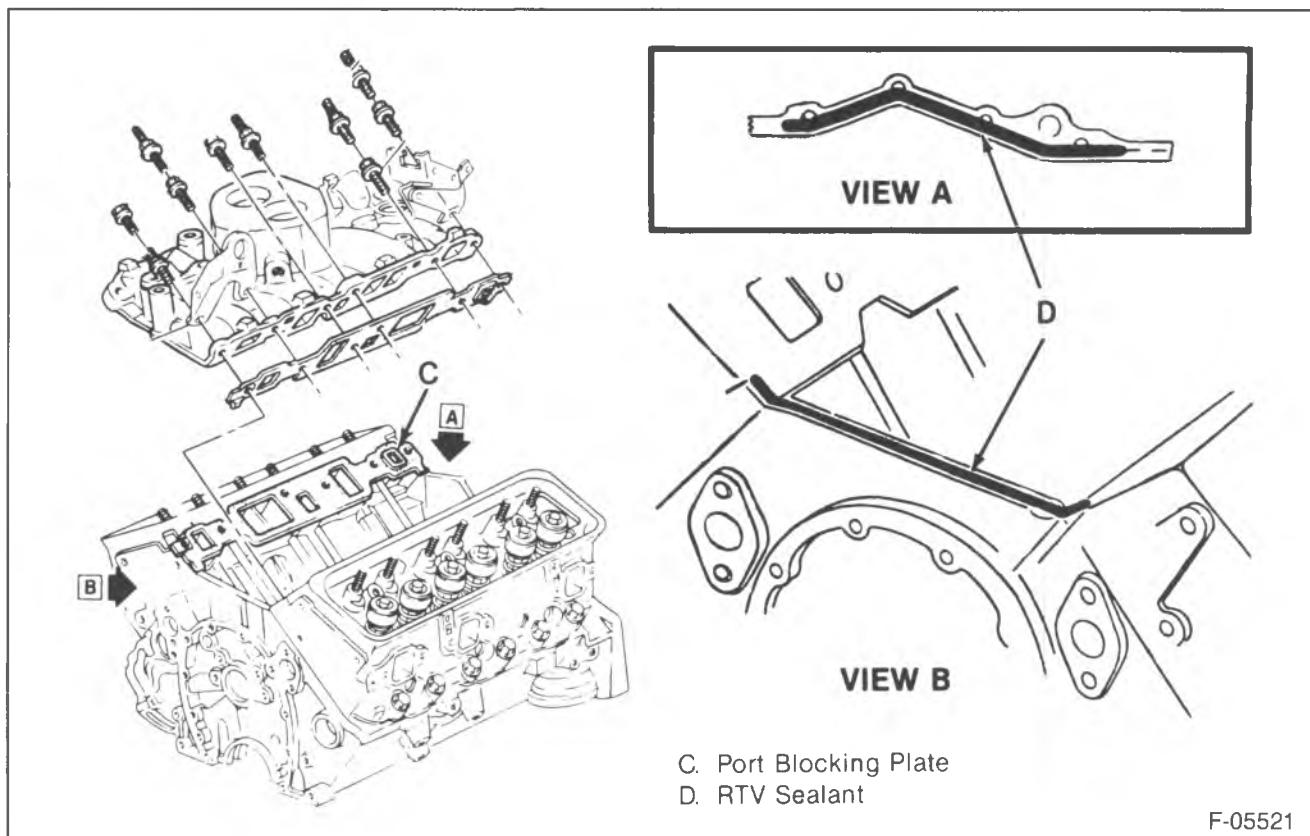

Figure 40—Intake Manifold Installation
Install or Connect (Figures 40 and 41)
- RTV to the front and rear sealing surfaces on the block. Apply a 5 mm ($\frac{3}{16}$ -inch) bead of RTV (GM Part No. 1052366 or equivalent) to the front and rear of the block as shown in figure 40. Extend the bead 13 mm (1 $\frac{1}{2}$ -inch) up each cylinder head to seal and retain the gaskets.